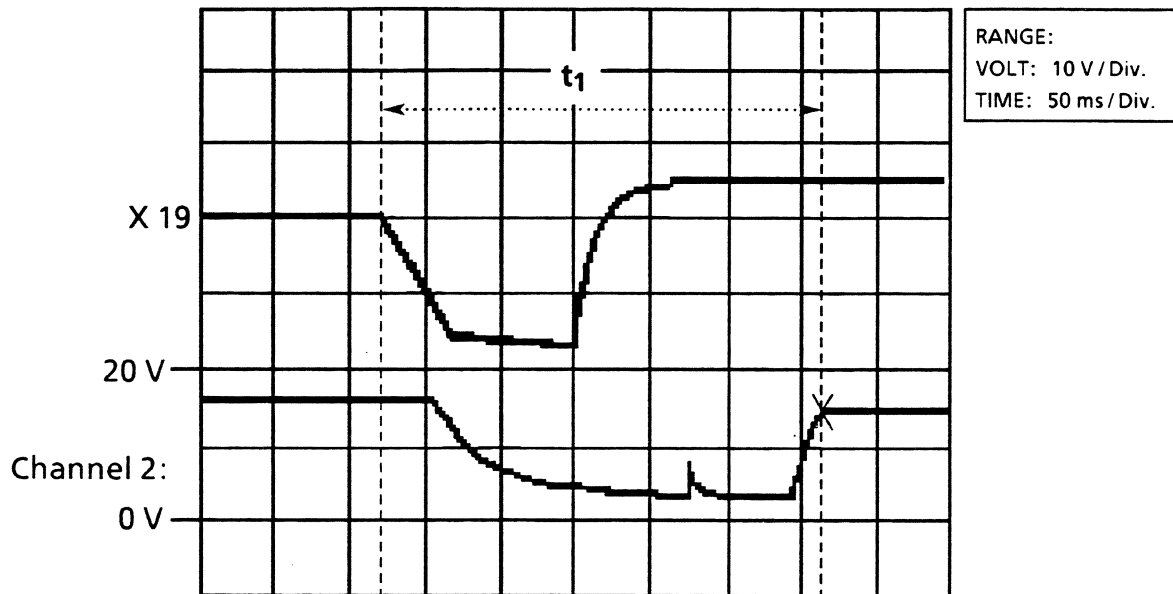

Fig. 7-21 Voltage at X19 with switchover from mains operation to external battery operation
- ▶ Check of the voltage characteristics at X19 and X20.2 on the oscilloscope (fig. 7-21):